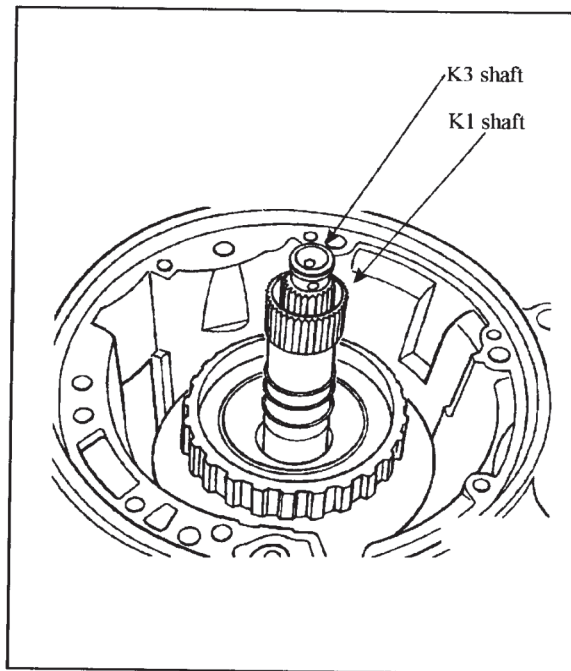

Figure 59
10. Lift and remove the K1 clutch drum (hollow splined shaft figure 59 and 60) from the transmission case.